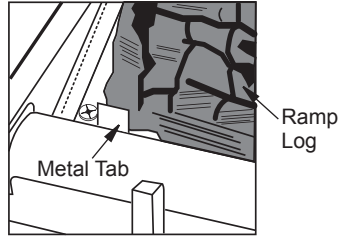
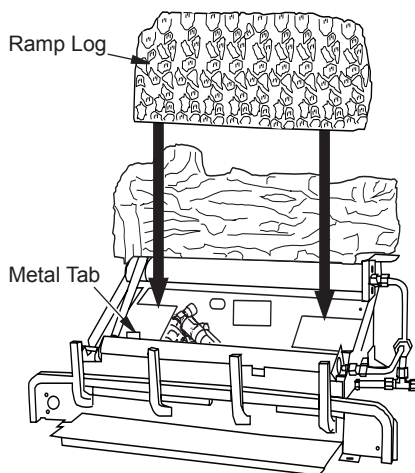

Figure 24 - Installing Log Set
Figure 29 - Installing Ramp Log
2. The log must sit flat on the black sheet metal and behind the left metal tab as shown in Figure 24.
- Place ramp log in center of base assembly as shown in Figure 29. Make sure the side marked **BOTTOM** is setting down on the base. The log will sit behind the metal base as shown in Figure 24, page 19.